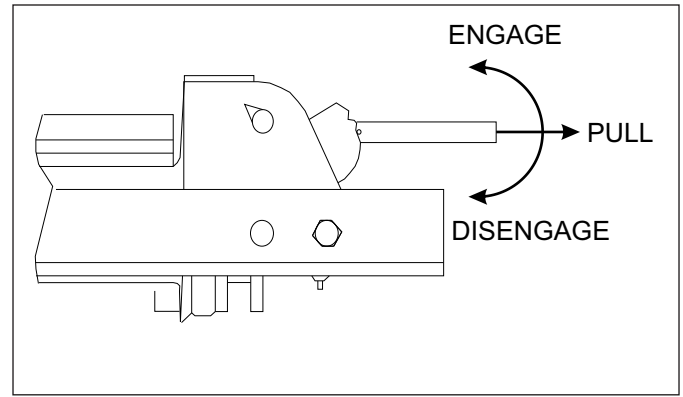

Figure 3-9: 12,000 LB. Winch Manual Clutch
1. The Winch Clutch handle (*See Figure 3-9 and 3-10*) is located on the right or curb-side end of the 12K winch assembly and the left or streetside of the 20K winch assembly. The function of the winch clutch handle is to engage or disengage the winch, allowing it to respond to the Winch Hydraulic knob.